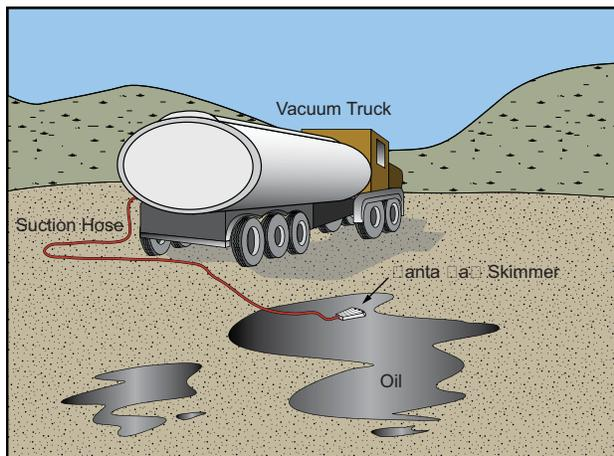

Figure OR-3. Oil recovery using a suction skimmer.
- Suction skimmers use a vacuum to lift oil from a surface (Figure OR-3). These skimmers require a vacuum pump or air conveyor system. Suction skimmers may also collect large amounts of water and debris if not properly operated. Most land-based suction skimmers are truck-mounted and require road access nearby the spill site, although trailer-mounted systems are available that may allow access to more remote sites.